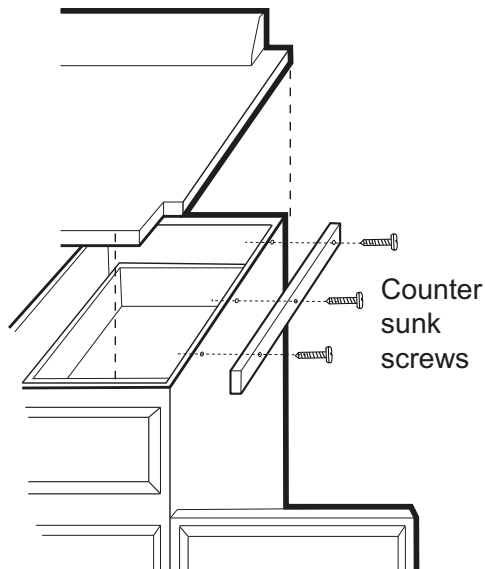
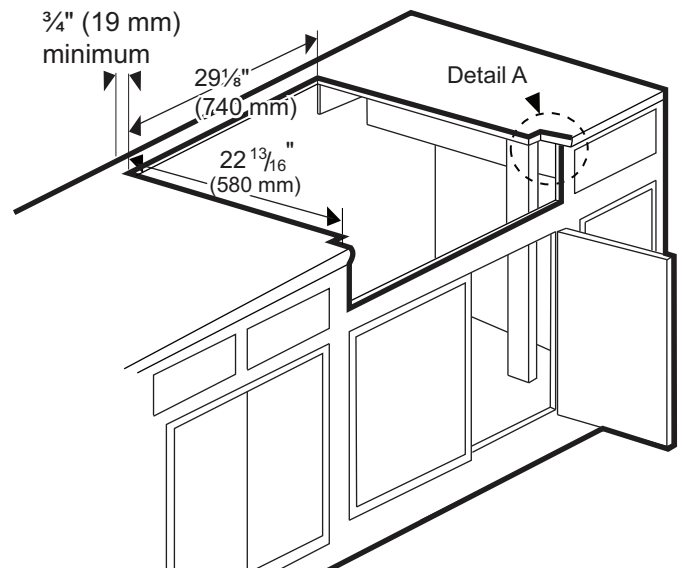

Figure 3: Installing Side Supports (both sides)
Figure 5: Island Installation (No Countertop Backsplash)
- The rangetop is designed to hang from the countertop by its side flanges. The countertop however, must be strong enough to support this rangetop. It may be necessary to add a supporting cleat along each side (see *Figure 3*) or a 2 x 4 corner brace (see *Figure 4* and *Figure 5* and *Detail A*). Another alternative would be to construct a deck to set the rangetop on.
- Island installation, see *Figure 5*.
- If a solid side cabinet wall exists on one or both sides, you will need to notch the front corner of the cabinet to match the countertop notch and to allow clearance for the rangetop front (see *Detail A*, *Figure 4* and *Figure 5*).